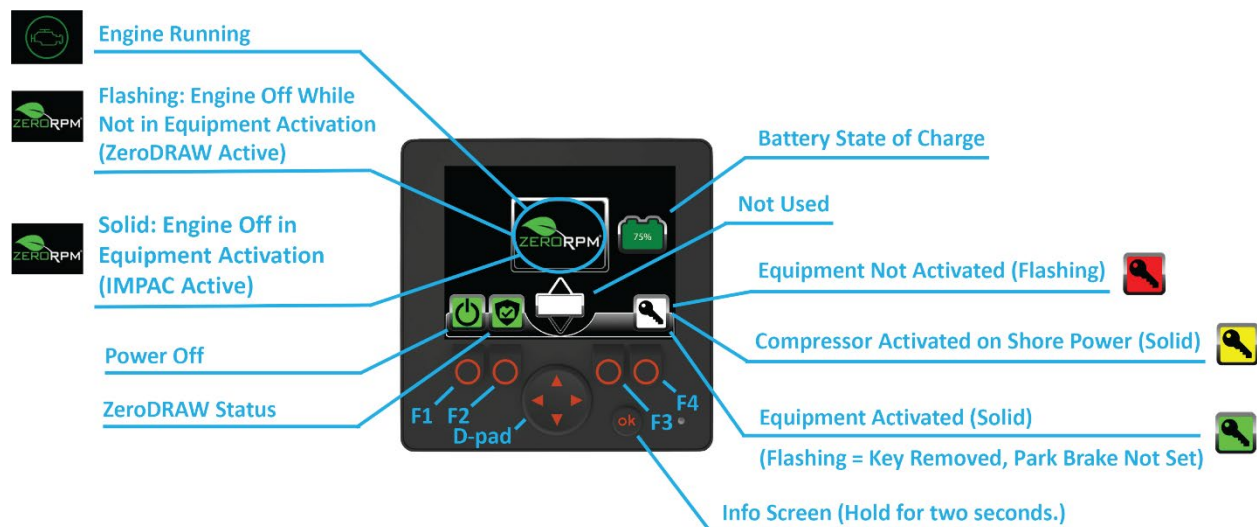

Figure 2 – IMPAC System Display
Figure 2 provides an overview of the IMPAC system display and icons that may appear on it during operation.
**NOTE:** The air compressor and jump-start will not work if the equipment has not been activated. If you forget to activate the equipment from the cab, the IMPAC display will show a flashing red key icon and state, “Equipment Not Activated” (see Figure 2). If you removed the key but forgot to set the parking brake, the IMPAC display will flash a green key and state, “Parking Brake Not Set” (see Figure 2).